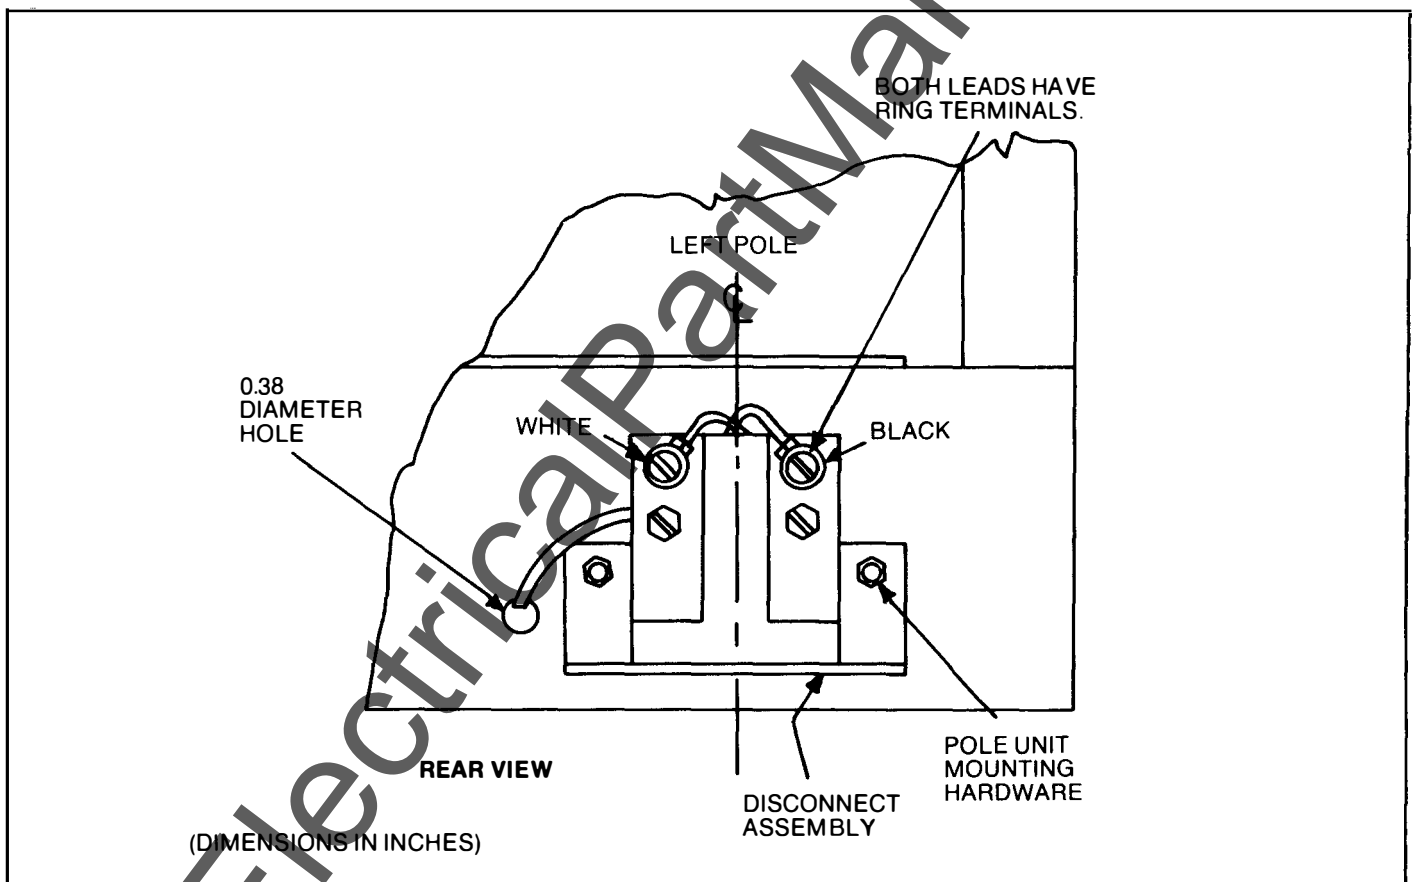

Fig. 4-1. 4th-wire neutral disconnect installed — AK/AKS-50 draw-out
The 4th-wire disconnect for AK/AKS-50 draw-out breaker mounts to the lower-back frame as shown in Fig. 4-1.
2. If the disconnect is being added, mount the disconnect assembly as shown in Fig. 4-1.